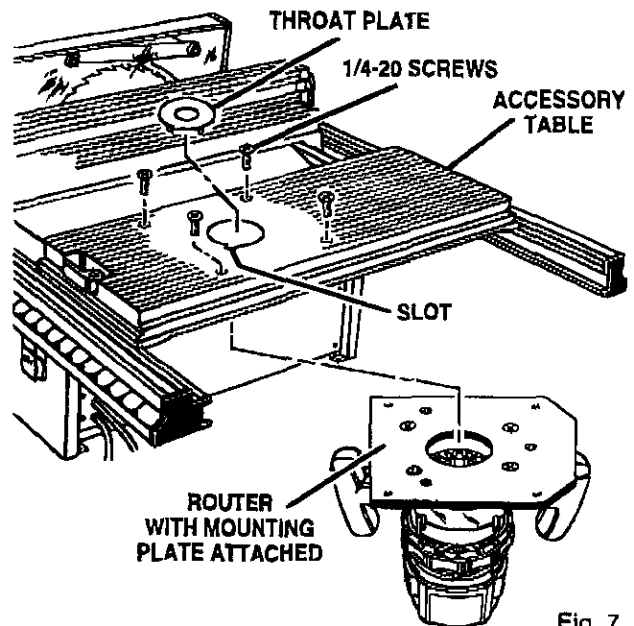

Fig. 7
- Place the router and the mounting plate under the accessory table. See Figure 7.